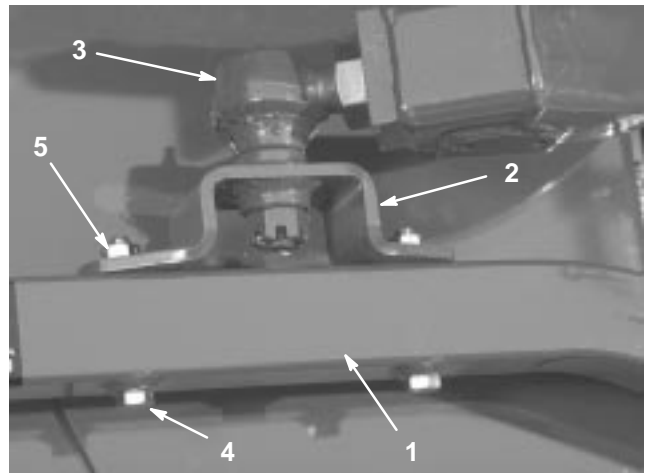

Figure 5
- Secure the ball joint mounts to each castor arm with 2 capscrews (7/16 x 3 in.) and flange nuts (7/16 in.) (Fig. 5).
- Tighten the large jam nut securing the ball joint to the lift arm (Fig. 5). When tightening the jam nut, hold the ball joint straight to permit proper oscillation during raising and lowering of the cutting unit.